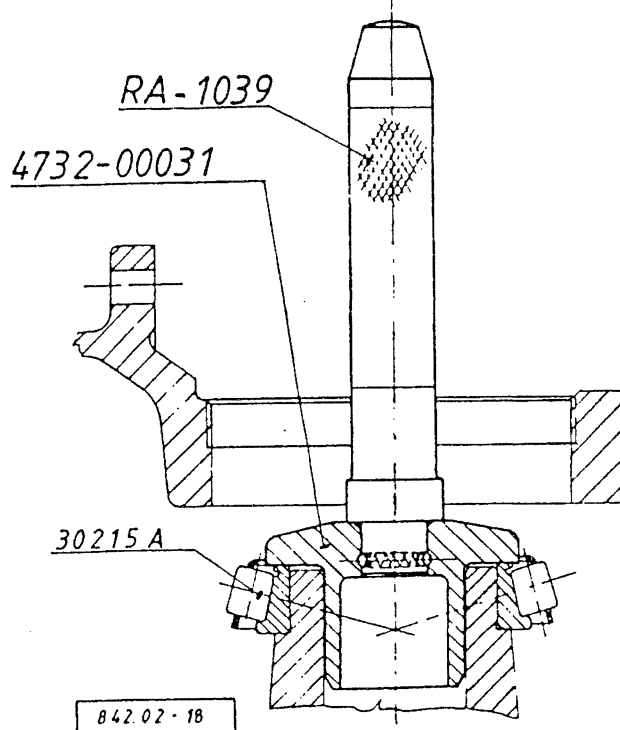

Fig. 2.: DRIVING ON THE TAPER ROLLER BEARING INNER RACE
By means of the tool shown in Fig. 2. tap the differential toward the flanged differential case half (31) so, the cup of the taper roller bearing (19) falls out.
Position the cone of the taper roller bearing (19) to the differential case half (24) and by means of the tool shown drive on to bottom out (see **Fig. 2**).